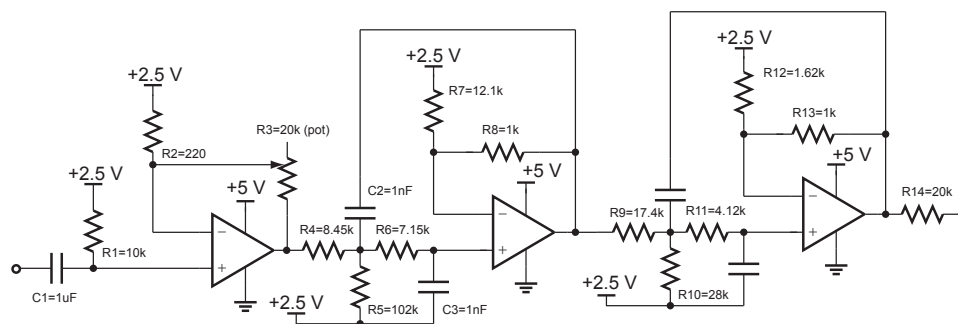

Figure 10: Schematic of the active low-pass filter.
In this part of the lab, we will implement an active low pass filter (LPF) with an adjustable gain stage. In the final radar system, the LPF+Gain stage will be responsible for filtering out spurious signals that may disturb the received baseband radar signals. We will use the Texas Instrument OPA4228 quad Op-Amp for both the gain stage and the active LPF. A pinout diagram of OPA4228 is shown in Fig. 6.10.4. Fig. 10 shows the schematic of the circuit. Fig. ?? shows an example of the actual circuit on a breadboard.
1. Identify the gain stage in Fig. 10. What is the expression of its gain? Notice the +2.5 V bias does not affect this result, rather it simply shifts the bias of the overall amplifier since a single 5 V supply (battery) is used vs a dual-rail (both positive and negative) supply.
1. Identify the active LPF portion of the circuit in Fig. 10. The overall filter consists of 2 low pass filters. What is the order of the overall filter and how is it determined from the schematic?
3. To measure just the filter response, disconnect R4 and R14 from the circuit (Fig. 10). Input a 3 Vpp signal in place of R4 and measure the output in place of R14. Tabulate and plot the frequency response from 100 Hz to 50 kHz. What is the cutoff frequency of the filter?